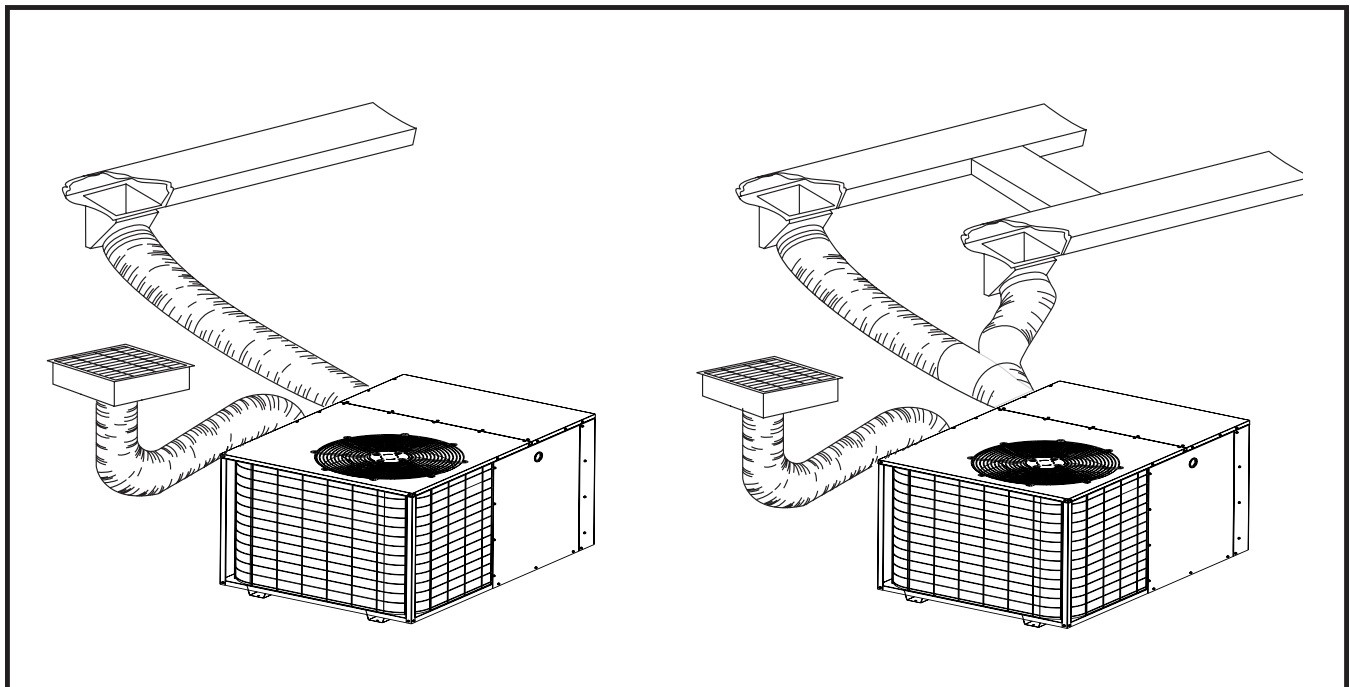

Figure 2. Single & Multiple Duct Applications
- The supply duct system, including the number and type of registers, will have much more effect on the performance of the system than any other factor. The duct must be sufficiently large to conduct an adequate amount of air to each register. See Figure 2.